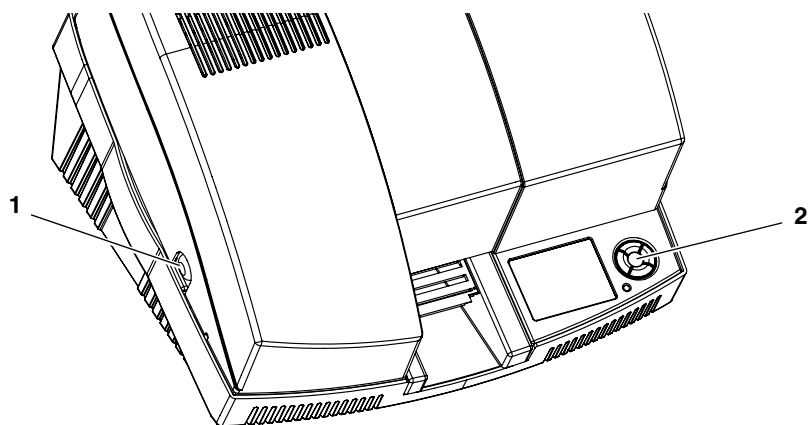

Figure 2-1 Opening the cover
Press the ● key (2 in Figure 2-1) to unlock the cover.